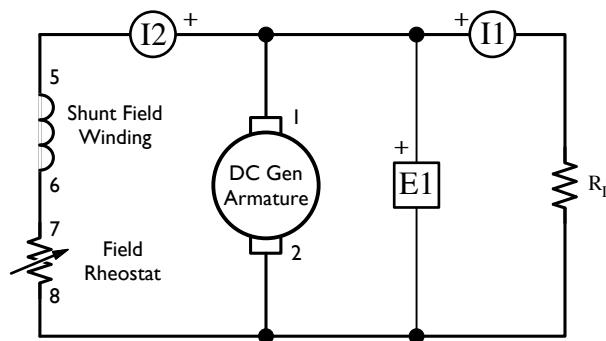

Figure 3.6: Self-excited DC Shunt Generator
- 33. With the power off, disconnect the field circuit from the dc power supply and plug it in to the armature terminals, while maintaining the same polarity, as shown in Figure 3.6.